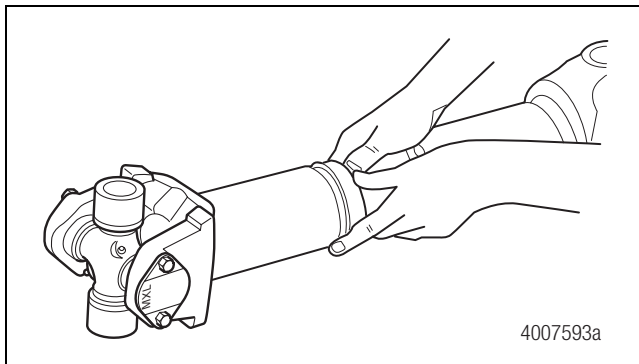

Figure 4.5
7. Install the steel shroud over the seal by hand. Figure 4.5.